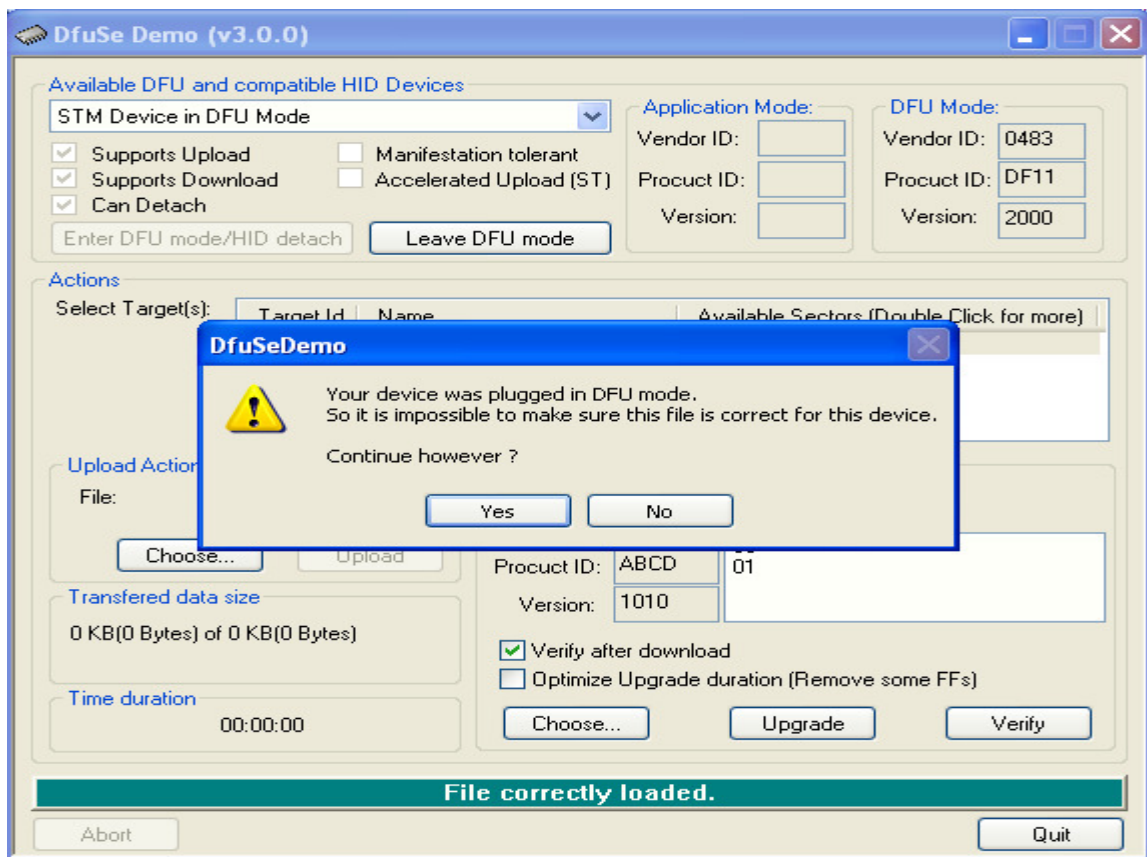

Figure 2
- 10.1.2. Please pay attention on information that is shown in the “Available DFU and compatible HID Devices” list box (up left corner of application window). If all sequence, described above, was done right a found devices will be listed, like on Figure 2 (STM Device in DFU Mode). If “STM Device in DFU Mode” device is shown in list box, it tell that AFEDRI SDR is successfully run in “boot” mode and ready to firmware update.
- 10.1.6. When the button was pressed, you can see some additional Message Box is appearing. It contains Message like on Figure 2. Press “Yes” to continue.